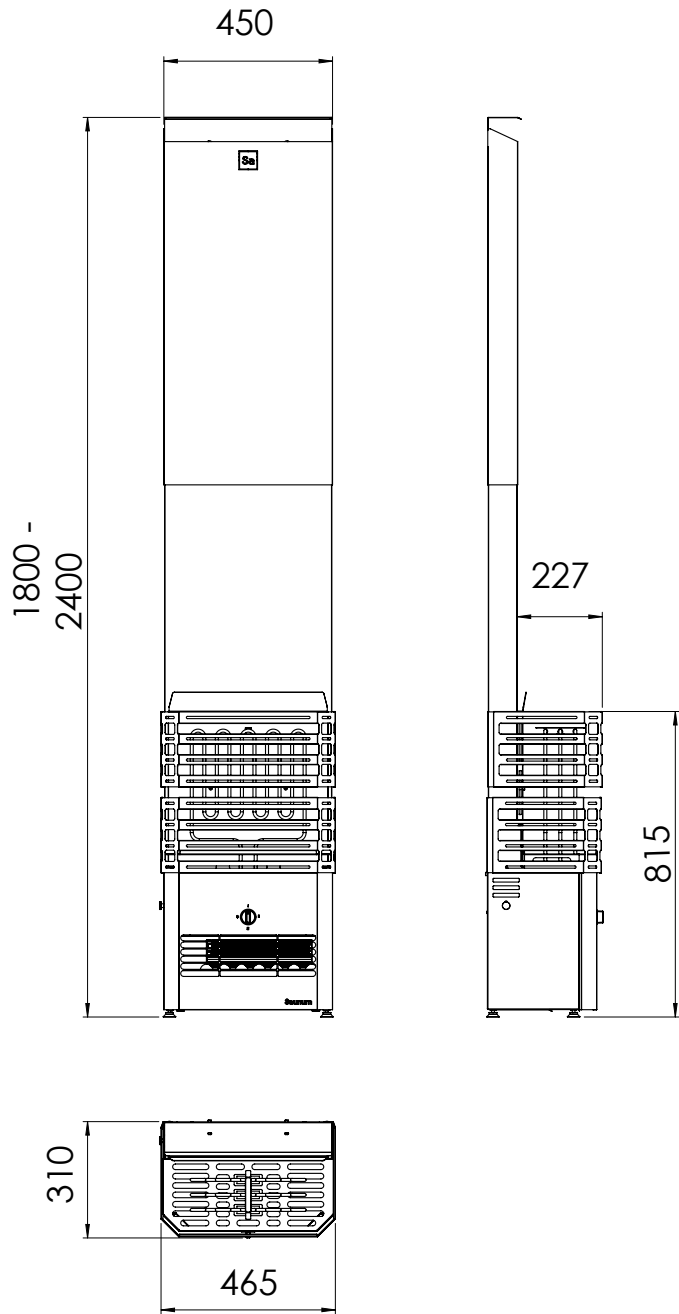

Figure 3.5: Saunum Primary set 4,5kw ja 6kw
- The dimensions of the device are shown in figure 3.5 and 3.6.